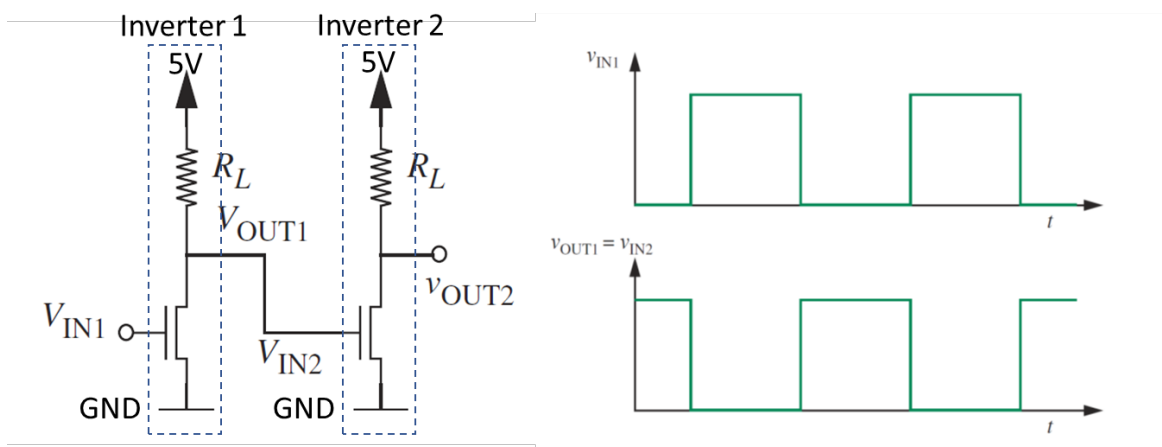
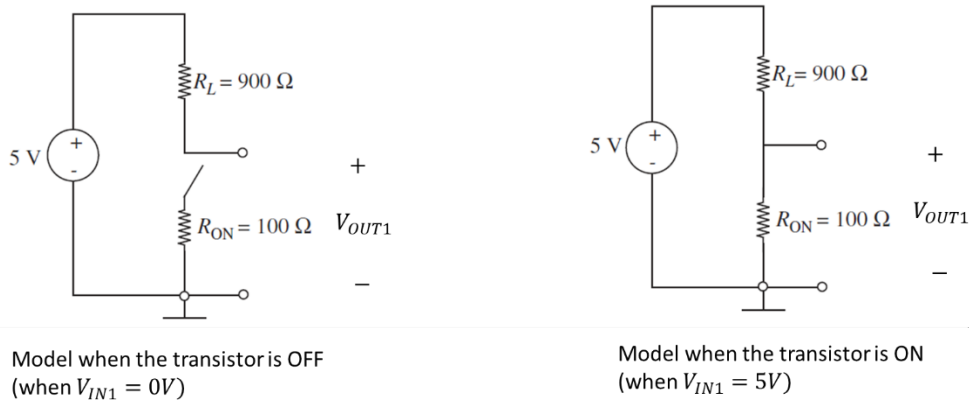

Figure 2b: Physical implementation (left) and ideal operation (right). Note that when  $V_{IN1}$  is high,  $V_{OUT1} = V_{IN2}$  is low and vice versa.
Figure 2c: Models for inverter 1 when the transistor is OFF (left) and when the transistor is ON (right).
The dashed boxes in Figure 2b show the circuitry that make an inverter. The bottom device is called a transistor, which is basically a switch. When  $V_{IN1} = 5V$ , the switch is ON and a resistor  $R_{ON}$  appears between  $V_{OUT1}$  and ground. When  $V_{IN1} = 0V$ , the switch is OFF and there is no connection between  $V_{OUT1}$  and ground. Figure 2c shows how inverter 1 can be modeled in both cases.
- a) Show that you have a basic understanding of the Inverter model shown in Figure 2c. Create a Thevenin equivalent circuit for both cases. What is the value of  $V_{OUT1}$  when  $V_{IN1} = 0V$ ? What is the value of  $V_{OUT1}$  when  $V_{IN1} = 5V$ ? Explain your answers.
In a real integrated circuit, there will be some inductance in the wire between the two inverters and there will be some capacitance at the input to the second inverter. These “parasitic” elements exist because real wires and real transistors have more complicated physics than that captured by our basic model shown in Figure 2b. In the case of a wire, for instance, the magnetic field around the wire creates a natural inductance. We often ignore this inductance, but sometimes it can matter a lot.
Figure 2d: Real inverter model with parasitic capacitance and inductance (left). Impact of the parasitic elements (right). Compare these waveforms with the ones shown in the ideal case in Figure 2b.